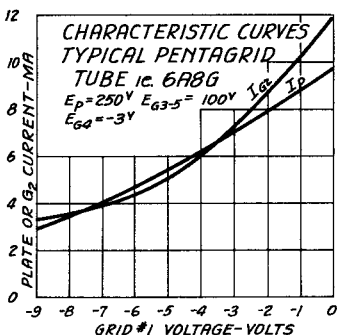
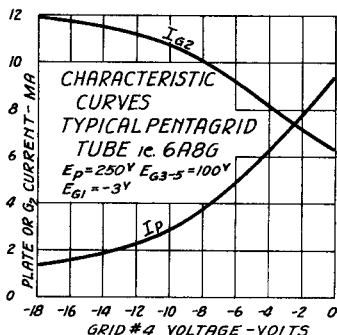

FIG. 1
FIG. 2
**MIXER OR CONVERTER TUBES** An important characteristic of a mixer or converter stage is the **CONVERSION TRANSCONDUCTANCE** which is equal to the quotient of the beat frequency, or 1-f, component of the plate current divided by the r-f signal voltage on the control grid, with no impedance in the plate circuit and constant d-c voltages on all the electrodes. In converter circuit calculations, conversion transconductance corresponds to transconductance in single frequency amplifier circuits. The **TRANSLATION GAIN** of a mixer stage is analogous to the voltage gain of an amplifier stage, and is the ratio of the 1-f output voltage appearing across the plate load impedance, to the r-f signal voltage applied to the control grid. Its value depends on the circuit constants as well as on the mixer tube characteristics and operating conditions. The **CONVERSION PLATE RESISTANCE** of a mixer tube is the effective plate resistance to the beat frequency, or 1-f, component of the plate current and corresponds to the plate resistance of an amplifier tube. A pentagrid converter tube is ordinarily operated as if it consisted of two sections, each having its own control grid, both grids simultaneously controlling the plate current in accordance with the separate grid voltages. The curves in Fig. 1 and Fig. 2 show the effect of the inner number 1 and the outer number 4 control grid voltages respectively on the plate current and on the current to grid number 2 which serves as the anode of the inner section. The negative relation between the voltage on the outer control grid and the anode current of the inner section, shown in Fig. 2, is typical of pentagrid tubes. Each section has the characteristics of amplification factor, plate resistance and transconductance, the values depending on the d-c voltages applied to the electrodes of both sections.